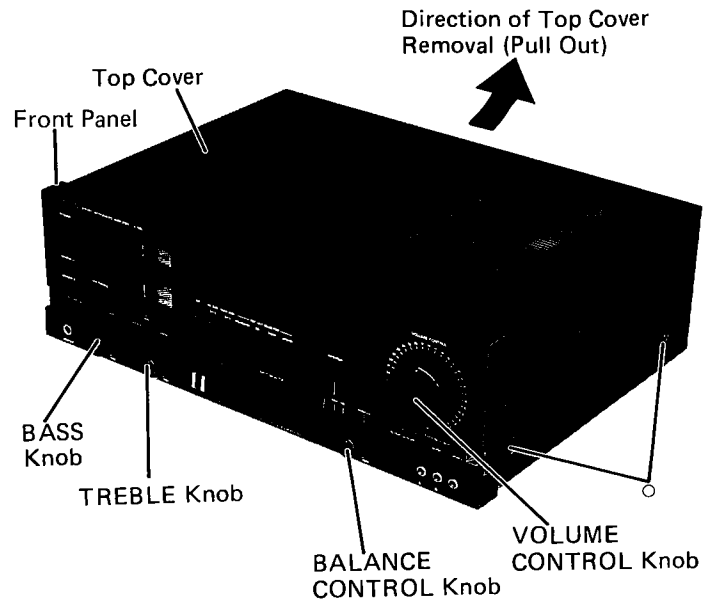

Figure 3
- (1) Remove six screws marked "○" as shown in Figure 3 and 4.
- (2) Pull out the Top cover in the direction of the arrow as shown in Figure 3.
- (1) Remove the volume control knob as shown in Figure 3.
- (1) After removal of Front Panel, remove three control knobs (bass, treble, balance), remove two hooks (a), and remove six screws marked "※" as shown in Figure 3, 4 and 6.
- (2) Disconnect all wires from the Front Escutcheon.
- (3) The Front Escutcheon with Function, Tone and Headphone P.C. Boards can be removed completely.